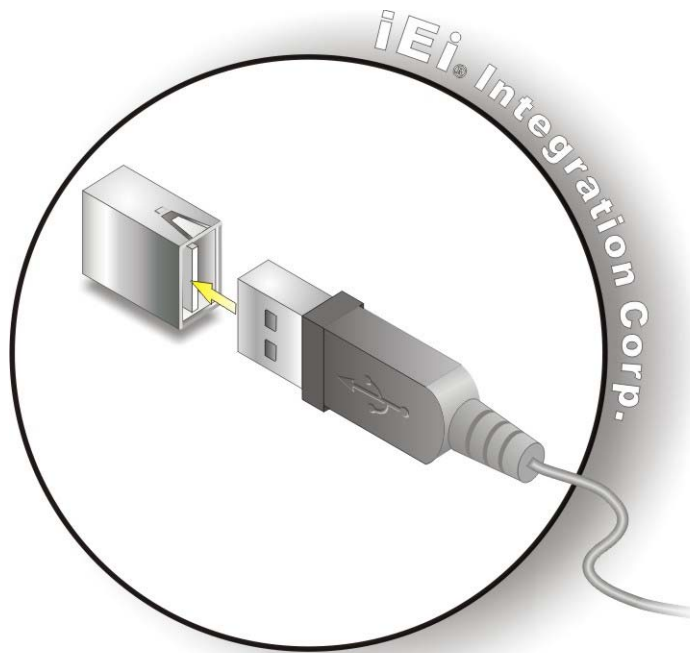

Figure 4-15: USB Connector
Step 2: **Insert a USB Series "A" plug.** Insert the USB Series "A" plug of a device into the USB Series "A" receptacle on the external peripheral interface. See **Figure 4-15**.